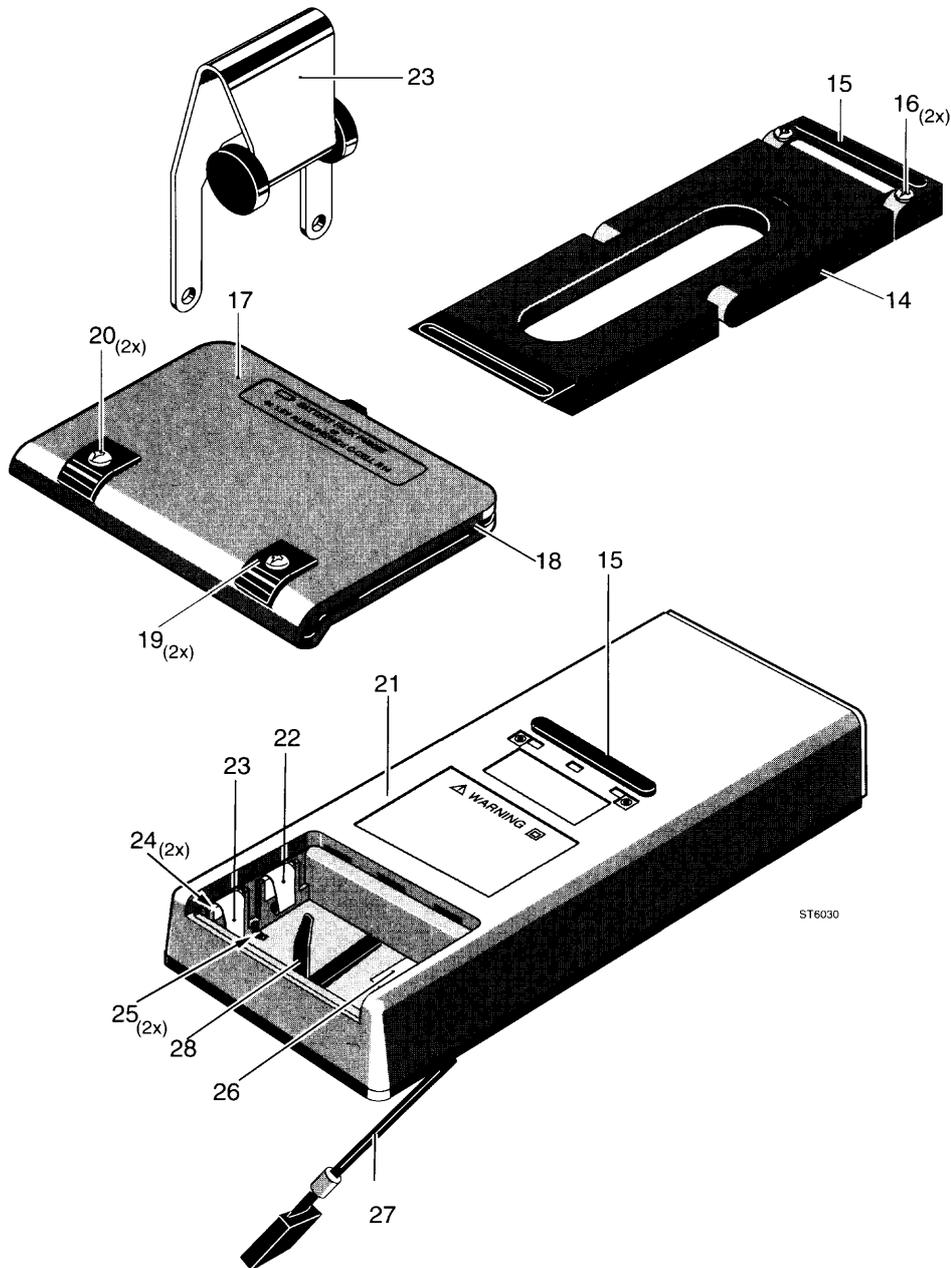

Figure 7.10 Replacing parts in battery compartment
Referring to figure 7.10, use the following procedure for replacements in the battery compartment.
Referring to figures 7.10 and 7.13, use the following procedure for replacing the battery wiring and battery contacts.
4. Bend the solder tags of the battery contacts (figure 7.10, item 23) in the bottom cover in such way that the contacts can be pulled out of the battery compartment.
5. Pull the battery contacts (figure 7.5, items 22 and 23) and the black buffers (figure 7.10, item 24) out of the battery compartment with a pair of tweezers.
*NOTE: The extra black plastic buffers in two battery contacts (see figure 7.10, item 23) prevent erroneous charging of the battery. Mount these battery contacts in the correct position!*
3. Bend the solder lugs of the contacts (figure 7.10, items 25 and 26) in the bottom cover so that the contacts can be pulled from the battery compartment.
Referring to figure 7.10, use the following procedure for stand replacement.
1. The stand is secured to the ScopeMeter with two black M3 Torx screws (figure 7.10, item 16). Use a Torx screwdriver to loosen the two screws.
1. Remove the stand assembly (figure 7.10, item 15).
2. The black M3 Torx screws are of a captured type (item 16). Remove screws by unscrewing them with a Torx screwdriver. Add a little pressure with another small screwdriver at the back of the screw.